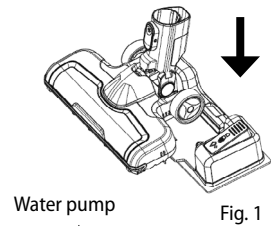

Fig. 1
- If you also want to mop during vacuuming, place the turbo brush in the water tank (14) and press lightly, you will hear a click (Fig. 1).